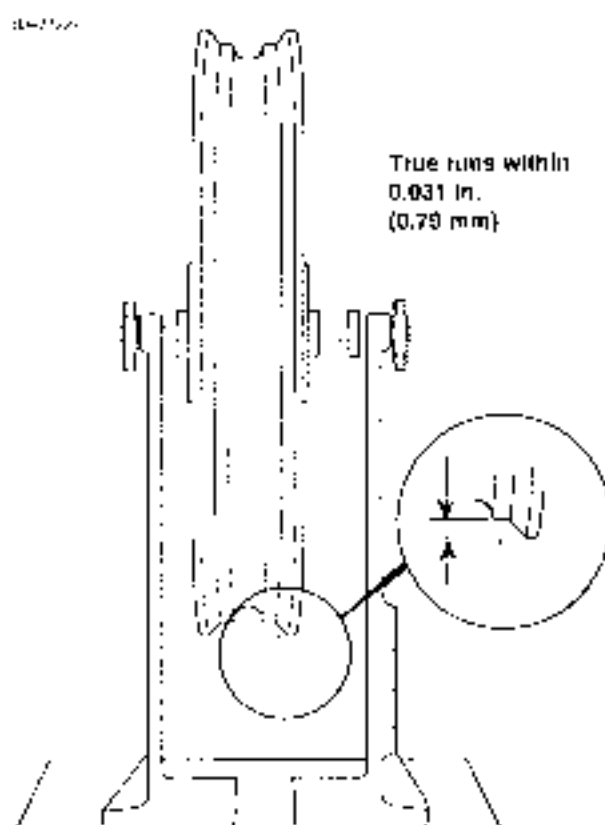

Figure 2-52. Truing Rim Radially
1. See Figure 2-52. Adjust truing stand gauge to the rim's tire bead seat as shown. The rim should be trued within 0.031 in. (0.79 mm).